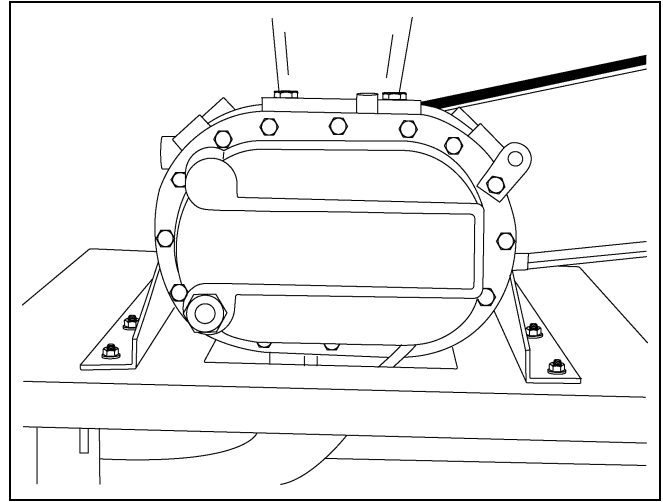

Figure 7K
9. The oil level should be at the center of the sight glass on the blower. Add part # AS-0886 if required. DO NOT operate blower until correct oil level is indicated. The 4" roots blower has sight glasses on both ends. Be sure oil levels are indicated on both sight glasses. (See Figure 7K.)